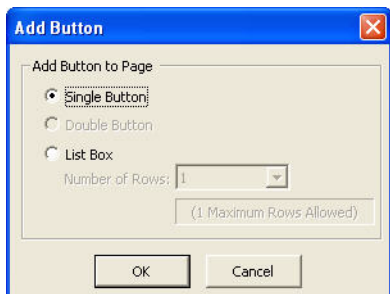

FIG. 31 Add Button dialog
3. Click **Add**. This invokes the *Add Button* dialog (FIG. 31).